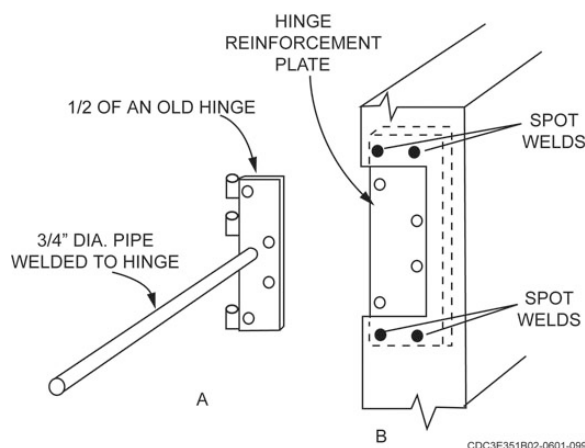
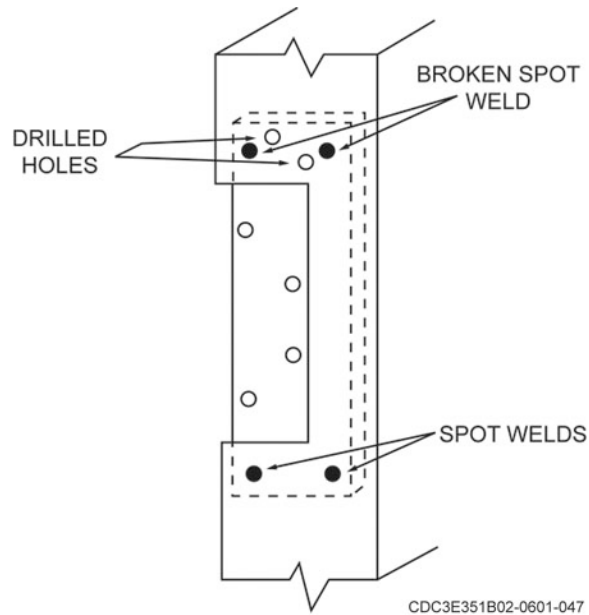

Figure 3-34. Hinge alignment tool.
Figure 3-35. Hinge reinforcement plate.
- If a hinge plate is twisted in its mount, you may be able to straighten it with a simple shop-made tool (fig. 3-34). By fastening the hinge part of the tool to the reinforcement plate with the correct size screw, you can pry it in the direction needed to straighten it.
If the spot welds holding the hinge plate in position are broken, you must reweld them. We recommend that you drill holes through the hinge stile and the hinge reinforcement plate (fig. 3-35). To hold the hinge plate in position, you can use a shop made hinge alignment tool like the one shown in figure 3-34. After you drill the holes, ensure you spot-weld through them. To complete the repair, you grind the welds flush with the hinge stile to allow the door to close without binding.